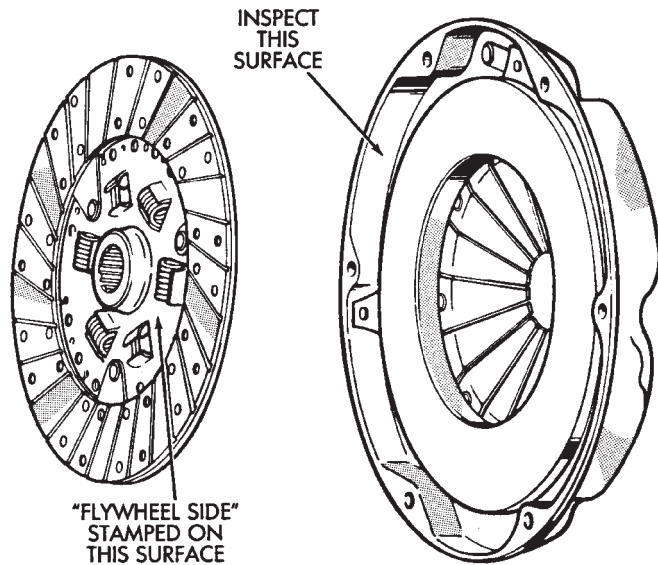

Fig. 2 Clutch Disc Position
(1) Remove transmission. Refer to procedures in Group 21.
(2) If original clutch cover will be reinstalled, mark position of cover on flywheel for assembly reference. Use paint or a scribe for this purpose.
(3) If clutch cover is to be replaced, cover bolts can be removed in any sequence. However, if original cover will be reinstalled, loosen cover bolts evenly and in rotation to relieve spring tension equally. This is necessary avoid warping cover.
(4) Remove cover bolts and remove cover and disc (Fig. 2).
(4) Position clutch disc on flywheel. Be sure side of disc marked flywheel side is positioned against flywheel (Fig. 2). If disc is not marked, be sure flat side of disc hub is toward flywheel.
(6) Insert alignment tool in pilot bearing and position disc on flywheel. Be sure disc hub is positioned correctly. Side of hub marked Flywheel Side should face flywheel (Fig. 2). If disc is not marked, place flat side of disc against flywheel.